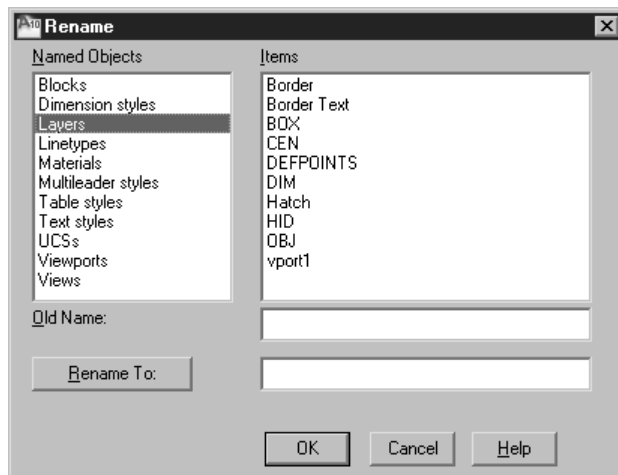

Figure 20-32 The **Rename** dialog box
1. Enter **RENAME** at the Command prompt and then press ENTER; the **Rename** dialog box will be displayed, as shown in Figure 20-32.